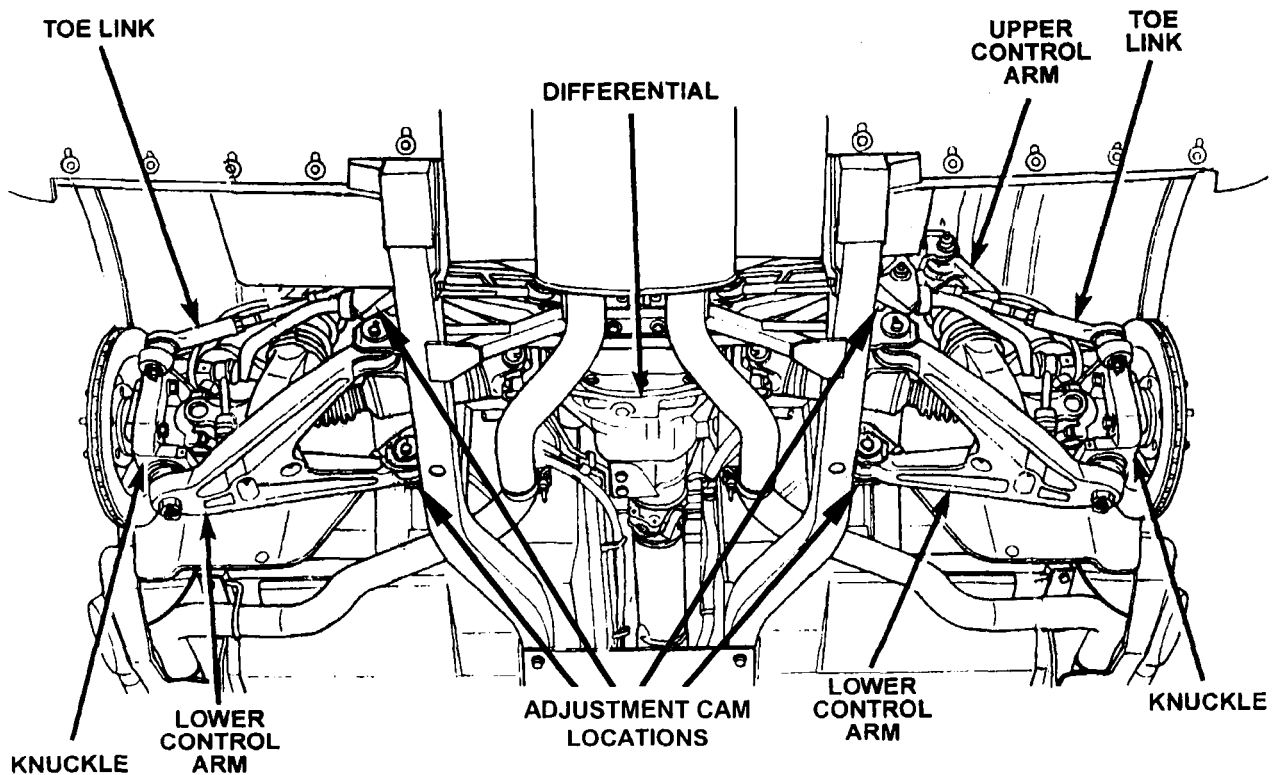

Figure 58
- Adjust the rear caster angle using the measurements viewed on the DRB III screen, and the camber angle using the measurements viewed on the alignment equipment. Camber and caster angles are adjusted by turning the cam bolts on the lower control arm bushings (Figure 58). Refer to the Alignment Specifications Chart on page 69 of this document.